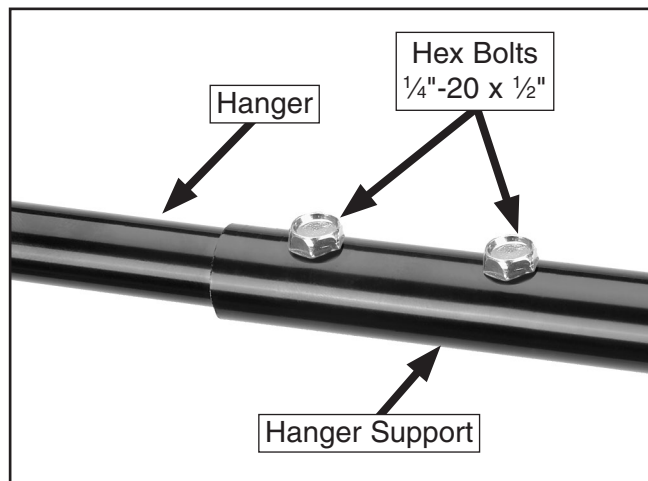

Figure 18. Hanger attached to hanger support (G061/G0672 shown).
- Secure the hanger into the hanger support with one (Model G0673) or two (Model G0671/G0672) 1/4"-20 x 1/2" hex bolts (see **Figure 18**).